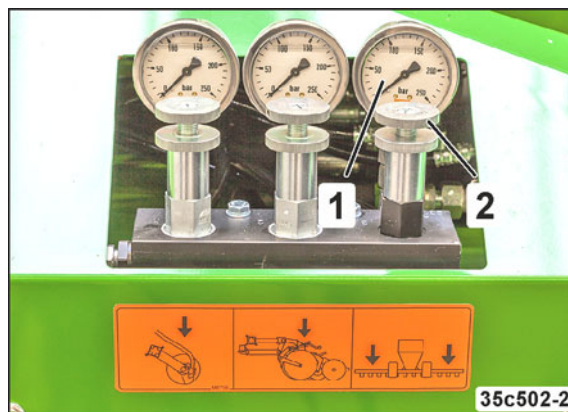

Fig. 85
- the valve (Fig. 85/2)
- on the pressure gauge (Fig. 85/1) or
The pressure displayed on the pressure gauge (Fig. 85/1) changes until the fan (singling) runs at a constant speed.